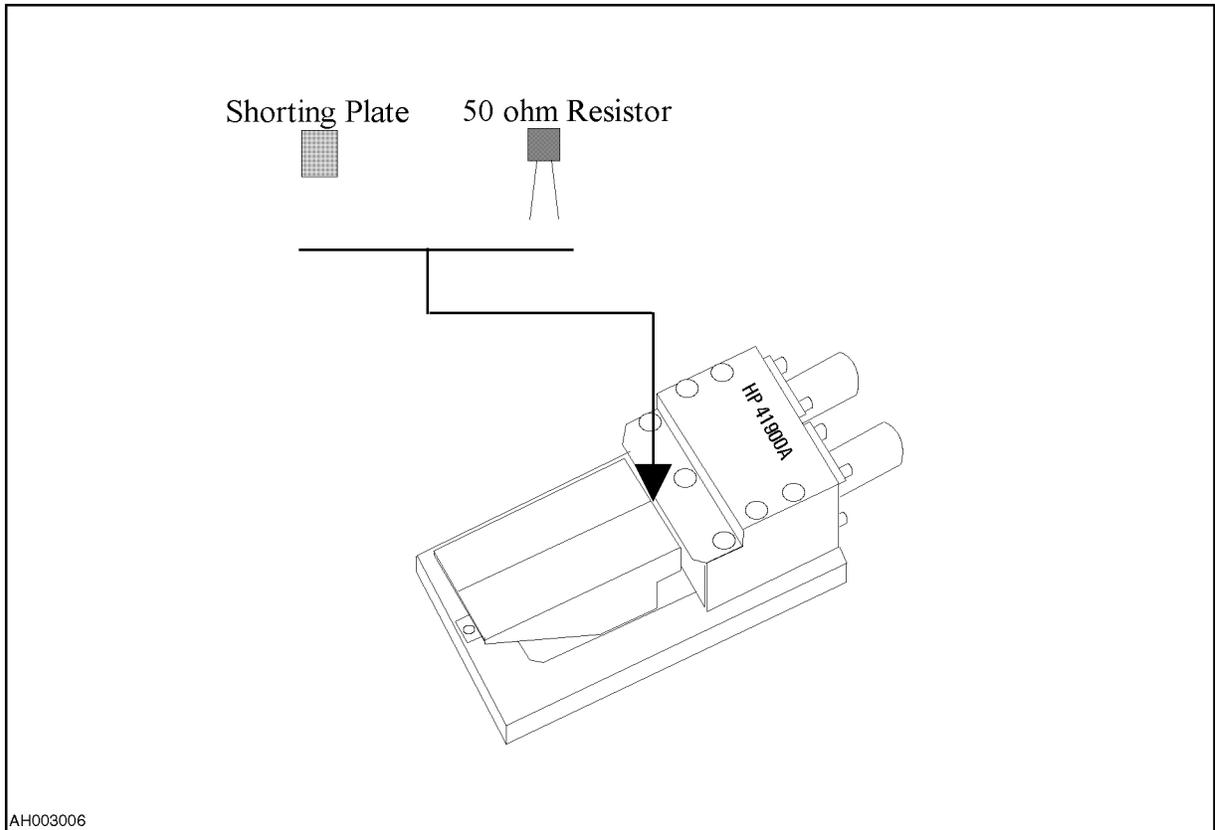

Figure 3-4. SHORT and LOAD Calibration
9. Set the positioning plate as shown in Figure 3-4. Connect the standards as follows and make the measurements:
SHORT	Connect the Shorting Plate as shown in Figure 3-4, then press SHORT on the 87510A's or E5100A/B's front panel. When completed, double parentheses enclose the SHORT softkey label.
LOAD	Connect the 50 Ω Resistor as shown in Figure 3-4, then press LOAD on the 87510A's or E5100A/B's front panel. When completed, double parentheses enclose the LOAD key label.